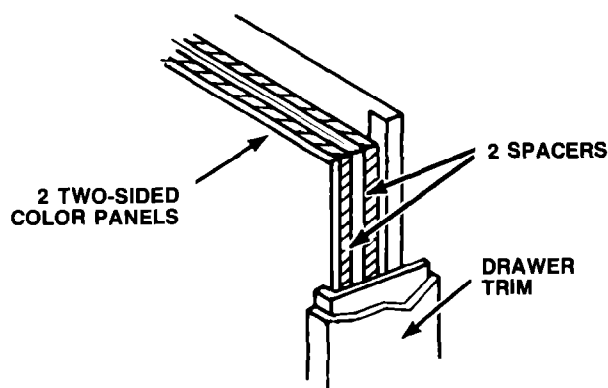

FIGURE 13
During installation, or in the future, you may wish to change the front panel color. Your compactor has two reversible front panels which offer four color options: Harvest Gold, Black, Almond and White. See panel assembly in Figure 13.
3. Remove spacer and inside panel. See *Figure 13*.